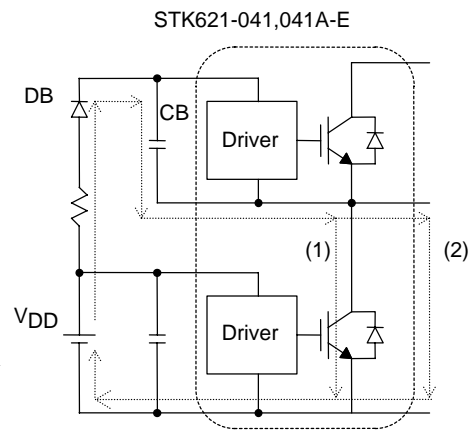

Figure 3 Bootstrap circuit and charge path
(4) VB1, VB2 and VB3 pins
These pins connect the positive power supplies for the upper-side power device pre-driver circuits. The three control power supplies each require an electrically insulated floating power supply. In addition to the method that uses three independent power supplies, this power supply can also be configured using the bootstrap circuit shown in Fig. 3. As shown in this figure, CB has a path (1) that is charged when the lower-side device is ON, and a path (2) for motor regeneration mode. The CB section voltage fluctuates according to the switching frequency and duty ratio of the external control circuit. Therefore, the CB capacitance value must be set in consideration of the voltage fluctuation. DB should use a high-speed type FRD with a fast t_{rr} and $VR = 600V$. RB is used to limit the rush charging current during CB initial charging. Note that a large rush charging current may cause the internal circuits to malfunction. CB can also be charged before startup by connecting high-value resistors to the output pins and minus pins. (Care must be taken for the withstand voltage and the power.)